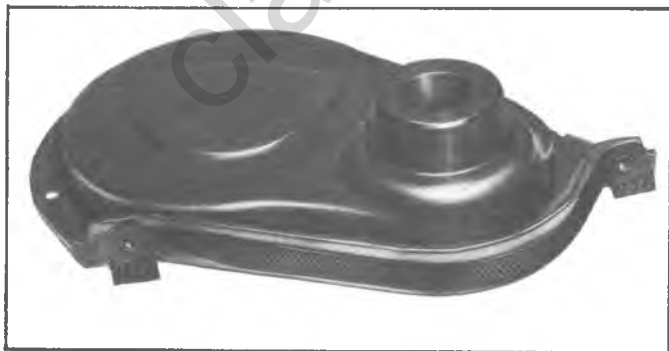

Fig. 10—Centering Tool in Cover (In-Line)
- a. Lubricate seal lip with engine oil then install crankcase front cover aligning Tool J-23042 in seal (fig. 10).